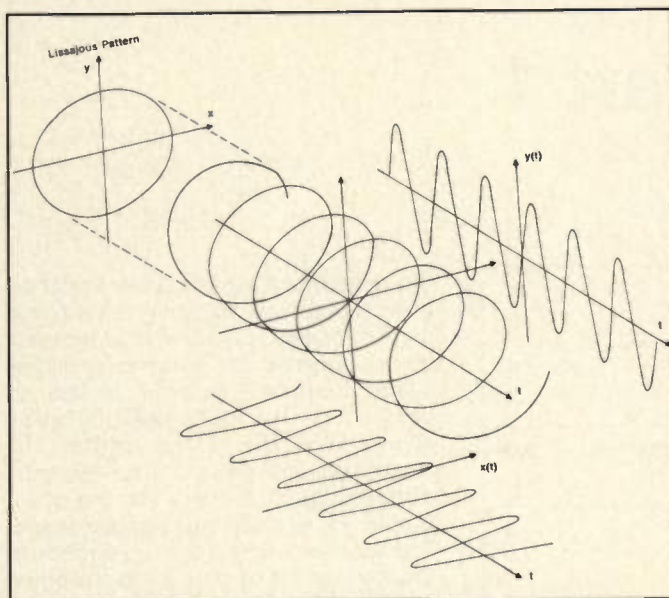

Figure 5. The relationship between a complex signal and its Lissajous pattern.
where θ is an immaterial unknown constant phase angle. Those two signals are then connected to an oscilloscope via channel 1 (X) and channel 2 (Y). Setting the amplitude switches of both channels to the same value and the time base switch of the oscilloscope to mode X-Y (no internal sweep), one can observe a circular trace rotating anti-clockwise at a constant speed of 1 revolution/sec. Known as a Lissajous pattern (2), this trace is nothing but the projection on the x-y plane of the exponential $e^{j\omega t + \theta}$. This is illustrated in Figure 5. Pressing the channel 2 (Y) invert switch of the oscilloscope leads, according to the relations given in equations 6 and 7, to a circular trace rotating in the reverse direction, i.e., to the projection of the exponential $e^{-j\omega t + \theta}$.